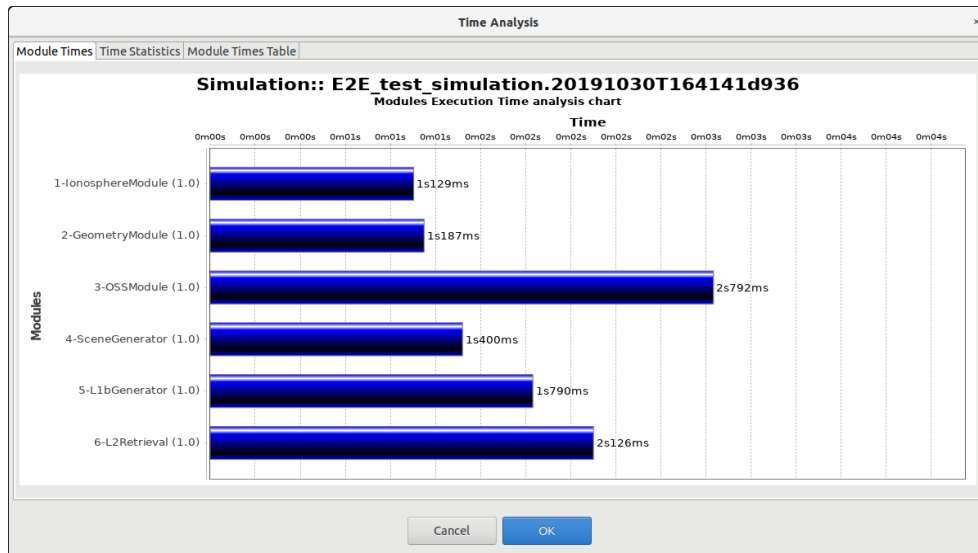

Figure 4-57: Bar graph showing module times
- ❑ *Module Times* tab: presents the module execution time in a bar chart graph¹⁰. See Figure 4-57.